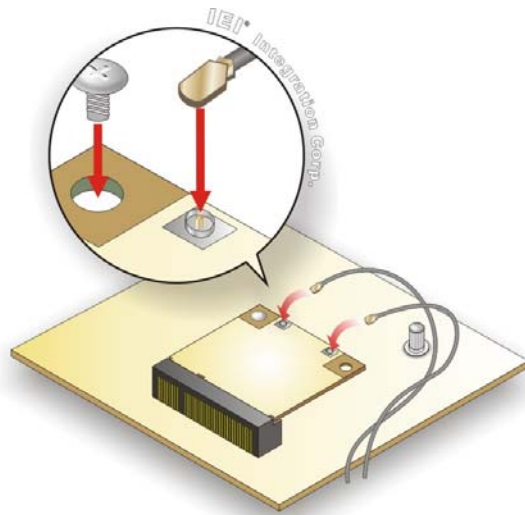

Figure 3-20: Securing WLAN Module and Connecting RF Cables
Step 6: **Secure the WLAN module.** Secure the WLAN module with the retention screw previously removed (Figure 3-20).
Step 7: **Connect the two RF cables** to the antenna connectors on the WLAN module (Figure 3-20).